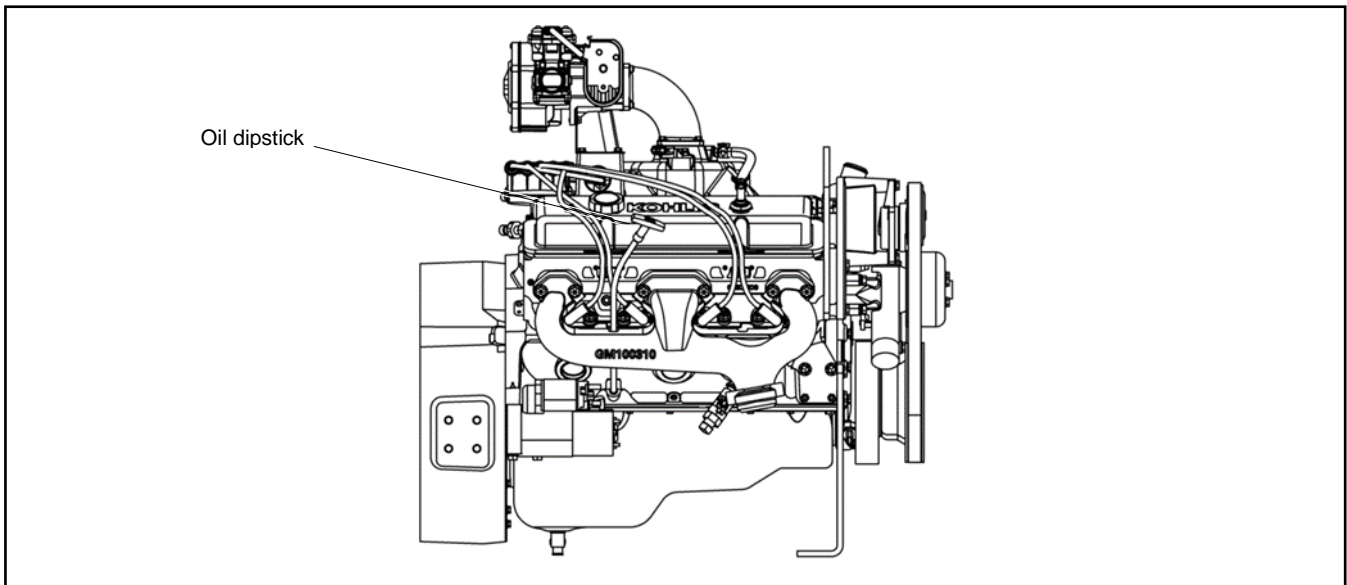

Figure 10 Oil Dipstick Location
2. Pull out the oil dipstick. See Figure 10.